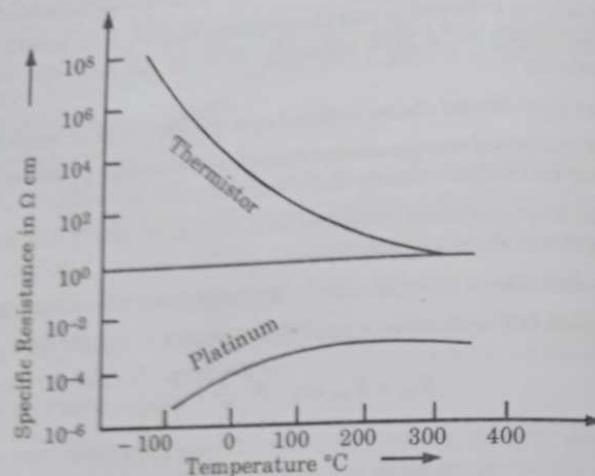

Fig. 2.4.2.
- Fig. 2.4.2 shows the relationship between resistance and temperature of different materials.